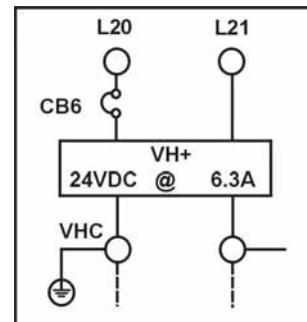

Figure 3-2
- 2) An independent, emergency backed, single-phase 120 VAC circuit is common to all drive types (for the first controller of each group only) [See Figure 3-2.]